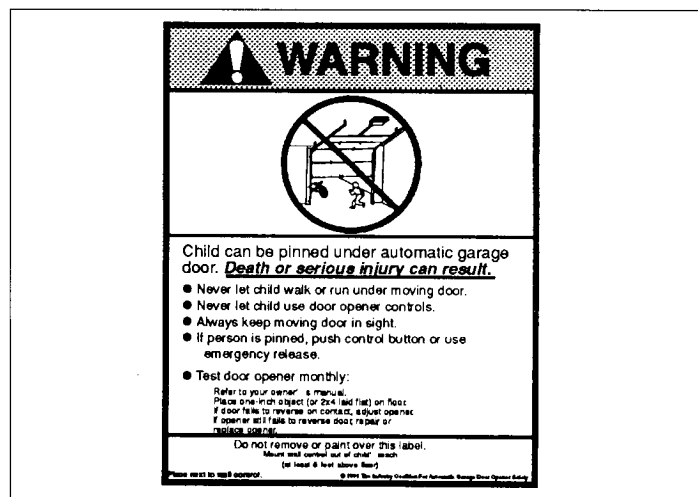

Figure 18
7. **Install Entrapment Warning Label (see Figure 18) next to control button and Control Adjustment Label in a prominent location, such as the inside of the garage door, or as instructed in the installation instructions. If labels will not adhere to surface, staple to wall or door.**
Step 31: Select a convenient mounting location for the wall switch near an access door. It must be mounted no lower than 5 feet so as to be out of reach of small children (see Figure 18) and within sight of garage door.
NOTE: The label shown in Figure 18 must be mounted in a visible place near the wall switch. If label will not adhere to surface, staple to wall.